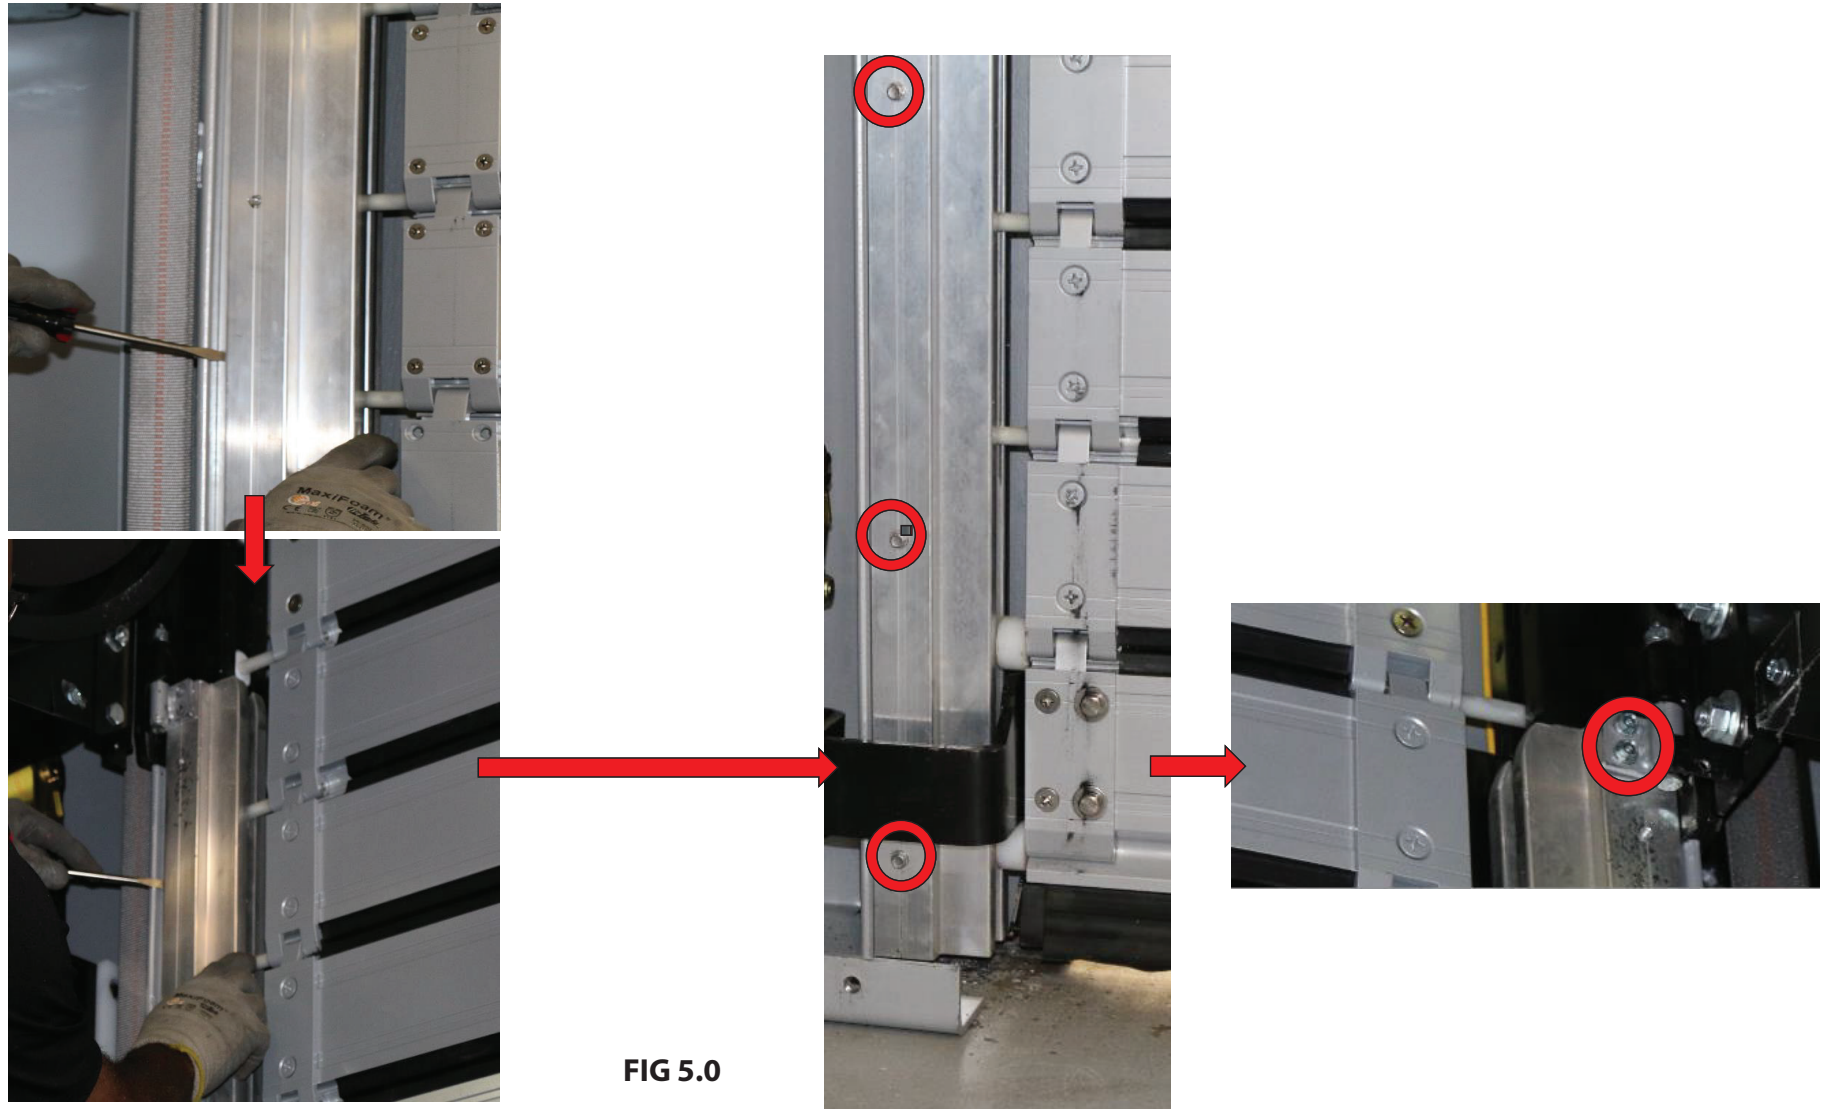

FIG 5.0
5. Set exterior guide into angle. Using a flat screwdriver and starting at the bottom, re-install the exterior guide back into the angle. Re-install the exterior guide into the angle. Re-install the bolts to secure the exterior guide in place, as shown in **FIG 5.0**.